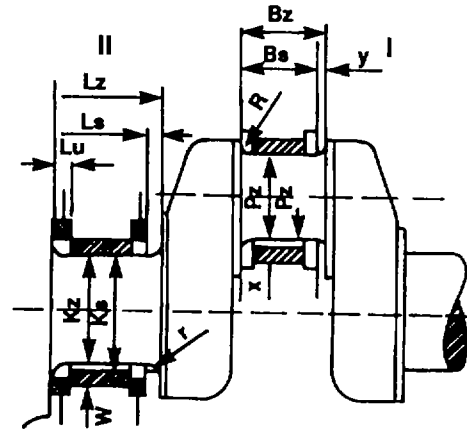

Figure 5-69. Measuring Crankshaft
5. With a dial indicator, check the other journals for out-of-trueness (figure 5-69).